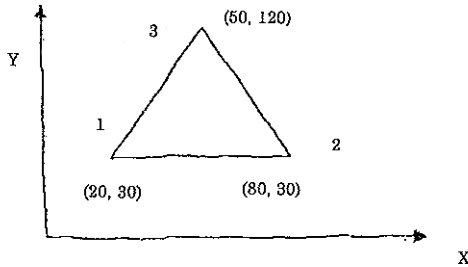

Fig. Q 13(a)
13. a) Determine the stiffness matrix for the Constant Strain Triangular (CST) element shown in Fig. Q. 13 (a) the co-ordinates are given in Units of millimeters assume plane stress conditions. Take $E = 210 \text{ GPa}$ 0.25 and $t = 10 \text{ mm}$.